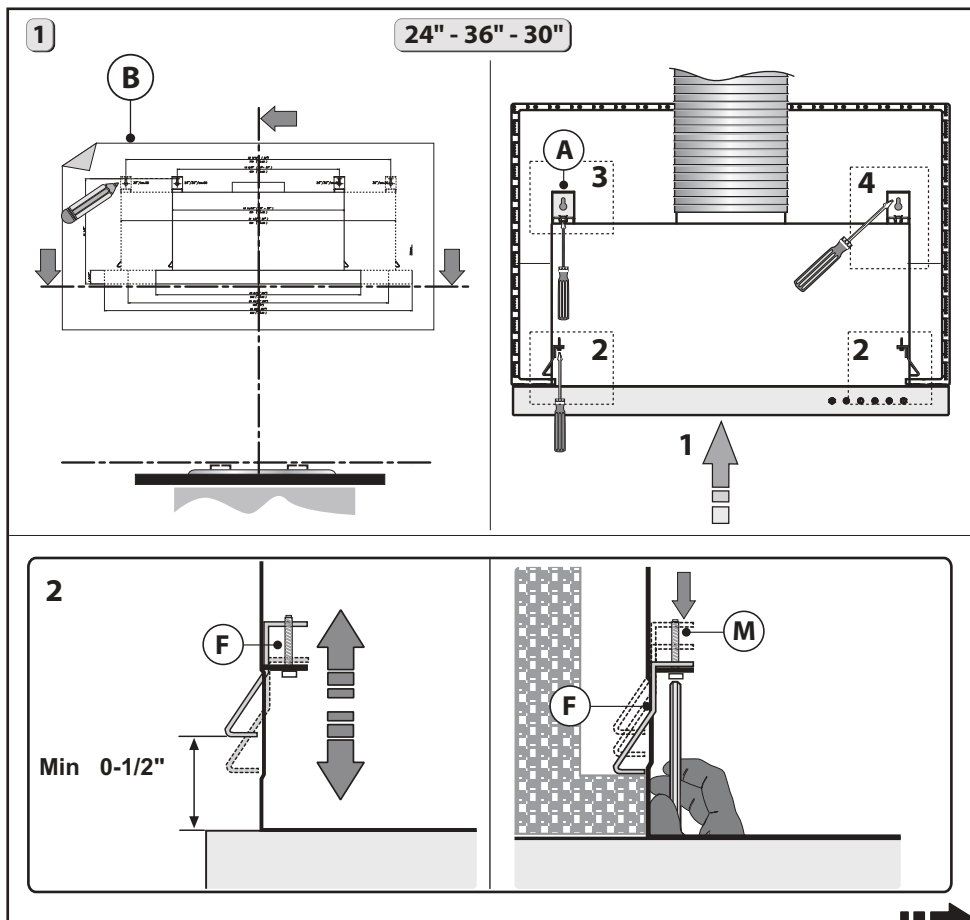

Fig.4
1. Remove pin Y from bracket A. (Pin Y can be discarded.) Then place the insert X on the slot of the bracket A, as indicated in Fig. 4 - step 3.
Match the C screws with the L washer and attach the A bracket to the cabinet as indicated in Fig. 4 - step 3.1. Do not completely tighten screws C to allow the bracket to slide back and forth.
- Mark the references to fasten brackets A to the wall cabinet, as indicated in Fig. 4.
3. Make sure the thickness of the wall cabinet is within the parameters indicated in Fig. 4 - step 2.
firmly against the wall cabinet (Fig. 4 - step 2).
5. Remove pin Y from bracket A. (Pin Y can be discarded.) Then place the insert X on the slot of the bracket A, as indicated in Fig. 4 - step 3.
6. After any adjusting to ensure the bracket touches the wall cabinet, tighten the bracket to the body (Fig. 4 - step 3.3).
- Fasten screw D to the wall cabinet as indicated in Fig. 4 - step 4.
- Once you have fastened the hood to the wall cabinet, adjust the spacer L, with the screws P, to make the device line up with the rear wall cabinet (Fig.. 4 - step 5).
- 3 - Make sure the thickness of the wall cabinet is within the parameters indicated in Fig. 4 - step 2.
- 4 - Install the hood in the wall cabinet and make sure the 2 side springs F are connected correctly. Fasten the hood to the wall cabinet using the screwdriver and the relative screws M and tighten until the device is firmly against the wall cabinet (Fig. 4 - step 2).
- 5 - Fasten the hood to the upper support shelf as indicated in Fig. 5 - step 6. - Once you have fastened the hood to the wall cabinet, adjust the spacer L, with screws P, to fill the gap between the hood and rear wall. (Fig. 4 - step 5).
This model includes side installation to the wall cabinet by using 2 brackets B (Fig. 6 besides steps 3-4, indicated in Fig 4).
4- Remove pin Y from bracket A. (Pin can be discarded.) Then place the insert X on the slot of the bracket A, as indicated in Fig. 4 - step 3.
- Match the C screws with the L washer and fix the A bracket to the cabinet as indicated in Fig. 4 - step 3.1. Pay attention not to completely tighten screws C before the bracket firmly reaches the wall cabinet (Fig. 4 - step 3.2). After any adjusting, tighten the bracket to the body (Fig. 4 - step 3.3).
- Once you have fastened the hood to the wall cabinet, adjust the spacer L, with screws P, to make the device line up the rear wall cabinet (Fig. 4 - step 5).